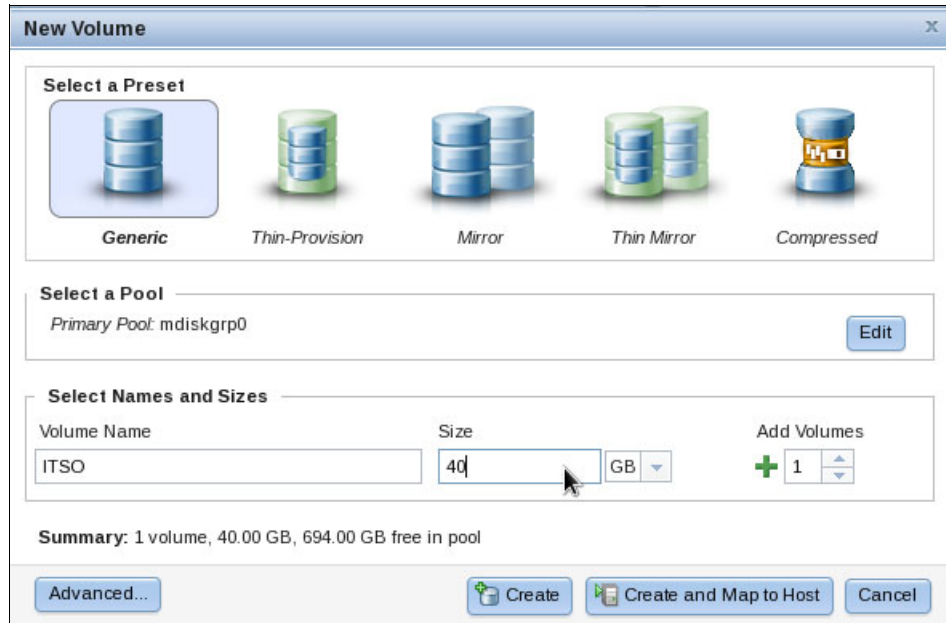

Figure 2-24 Creating a generic volume
- Click **Generic** and select the pool name. Enter the volume name and size, then click **Create**, as shown in Figure 2-24.